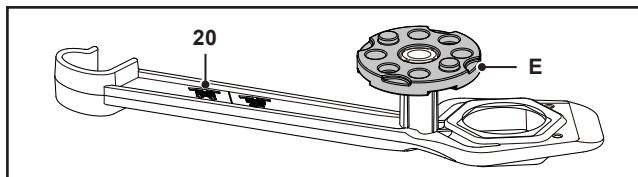

Fig. 8
NOTE: Store the spacers (part E) that are not being used on the spanner (20) to prevent loss (Fig. 8).